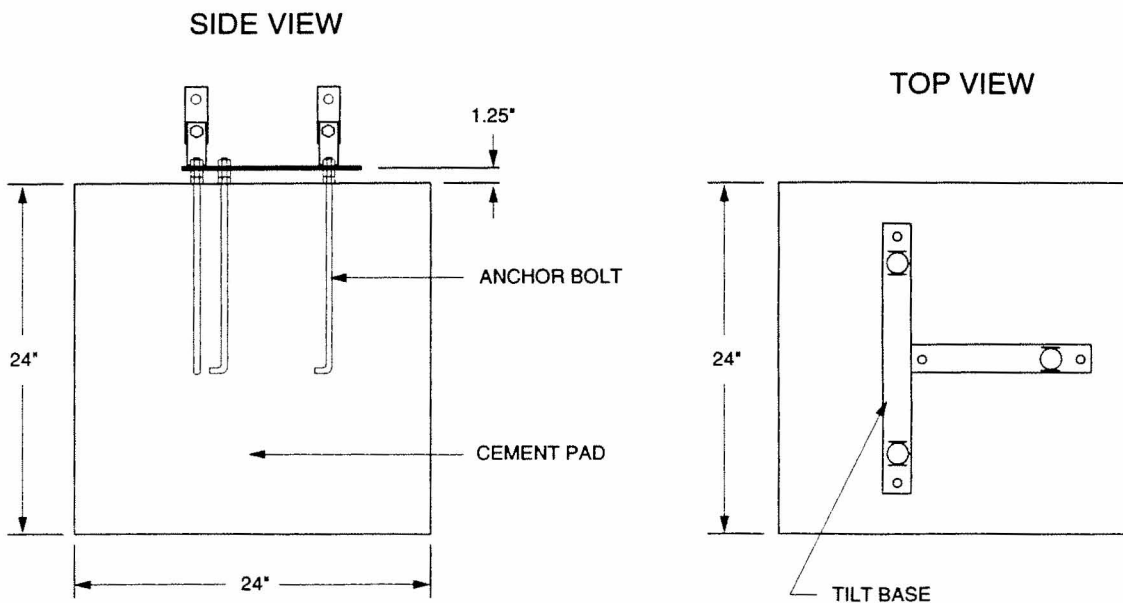

FIGURE 3-3 Concrete Foundation and Anchor Bolts
3. Assemble the anchor bolts and tilt base as shown in Figure 3-3. There should be two nuts below the base and one nut above.
4. Fill the hole and form with concrete. Screed the concrete level with the top of the form. Allow the concrete to setup enough to support the weight of the base*, then position the base (with the anchor bolts attached) over the center of the concrete foundation and press the anchor bolts into the concrete as shown in Figure 3-3. The bottom of the threads should be approximately 1/2" above the concrete. Level the base in both directions using a small level.